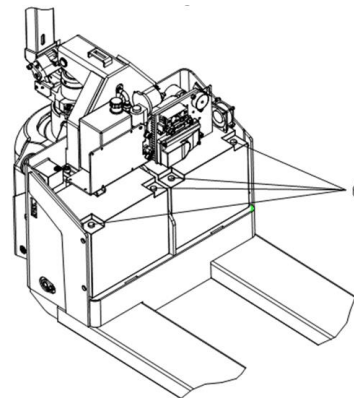

Fig.9
- (Fig 9) Loose the screw on the battery terminal. Loose the positive wire first, avoid the battery short circuit;